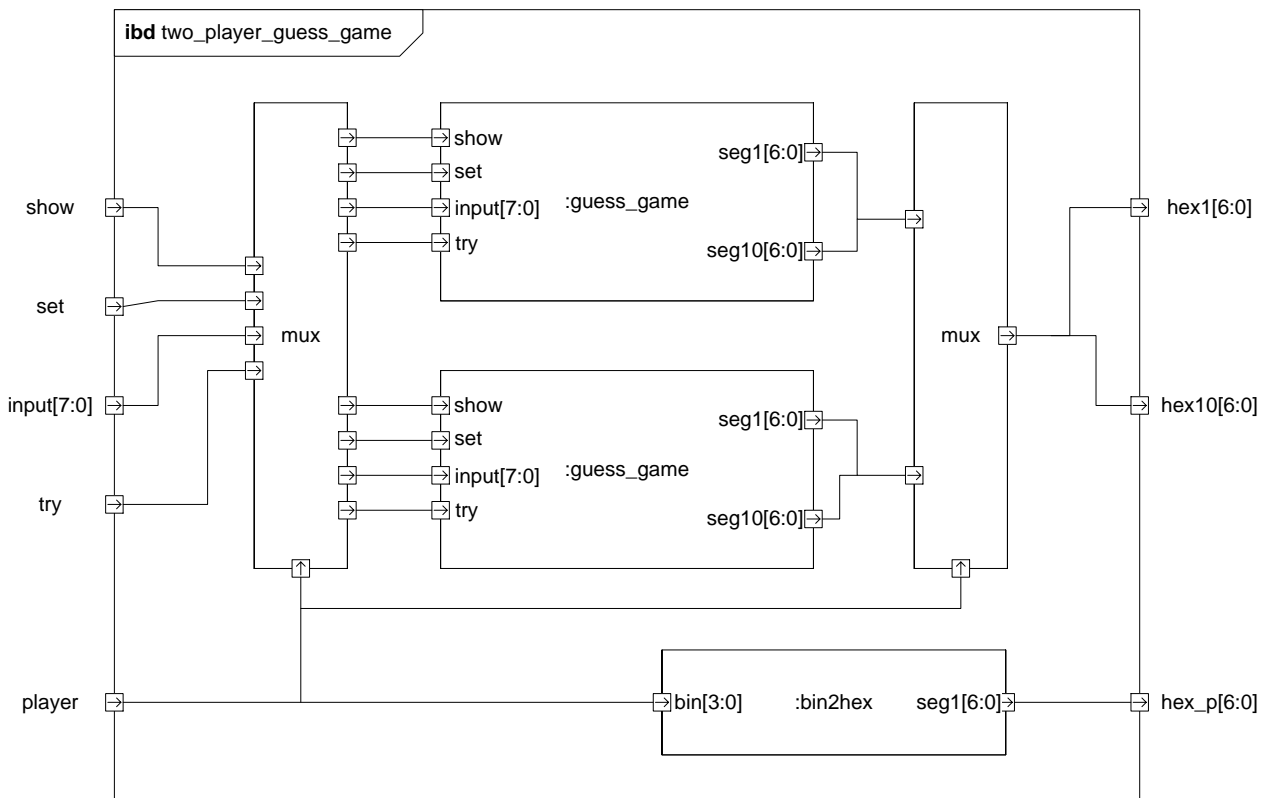

FIGURE 4 TWO-PLAYER GUESS GAME
- 1) Design the two-player game as depicted in Figure 4. Use if/case/when/with-select as appropriate. *Argument why you have chosen one solution over others.*